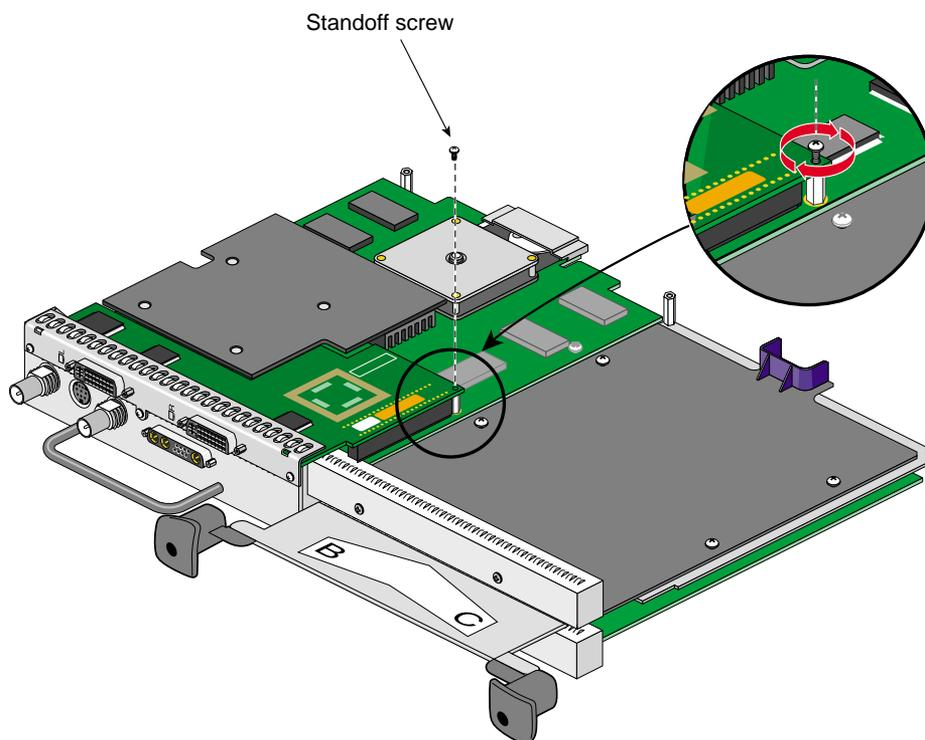

Figure 1-20 Securing the Display Option Board to the Standoff
10. Place the screw you removed from the VPro Graphics Board into the hole behind the Display Option Board connector (above the standoff), then tighten the screw by turning it clockwise, as shown in Figure 1-20.